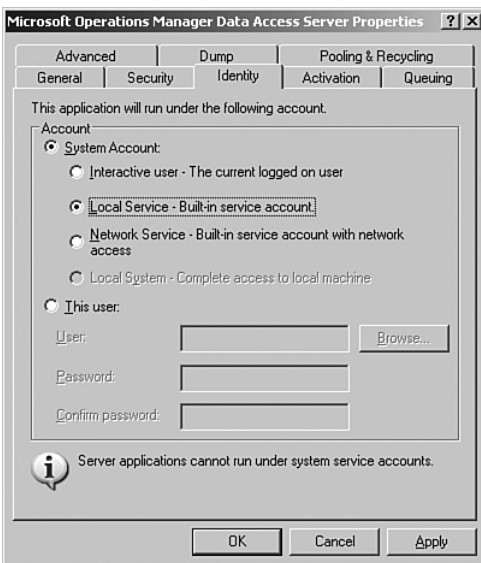

FIGURE 11.6 The MOM DAS COM+ Identity tab.
3. Right-click on the application, choose Properties, and select the Identity tab. To change the account, select System Account and Local Service – Built-in Service Account. Figure 11.6 shows the configuration for using the Local Service account.